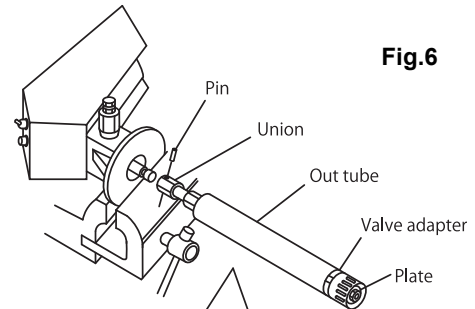

Fig.6
- 4) Secure the pump assembly in a vise. (Fig. 6)
- 5) Unscrew valve adapter. Pull the outer tube from the pump with the outer tube extended as far as possible. A roll pin will be exposed. Drive out the roll pin with a punch. Then unscrew the union and separate the pump from the motor. (Fig. 6)
- 6) Pull out the out tube. If only the valve adapter pulled out, unscrew the nut and remove the plate. Then pull out the out tube and screw the suction tube with pipe wrench (set on notched part of the suction tube). Pull out the pin and unscrew the union, and the lower pump can be separated from the motor. (Fig. 6, 7)
- 15) Insert the suction tube from opposite side of valve adapter. Pull out the union from the suction tube and screw it to the connecting rod of the motor side. Adjust the position of pin-hole of both the suction and the union, and insert the pin. (Fig. 6)